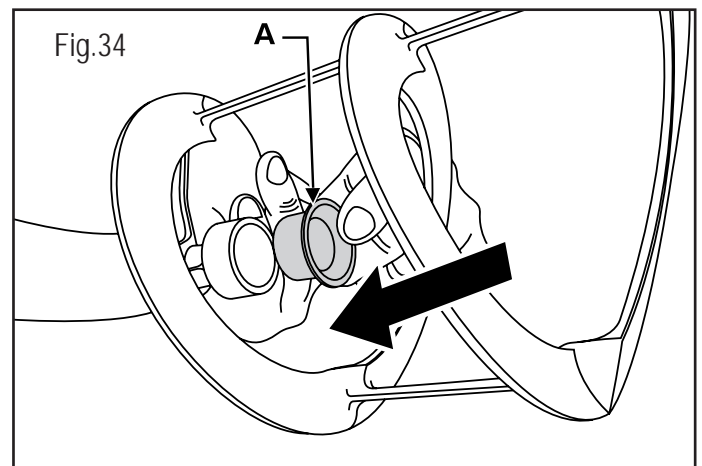

Fig.34
Apply the seal (A) on the auger as shown in the fig.34.
The bowl seal is not lubricated. (Fig.34)	Lubricate accordingly.